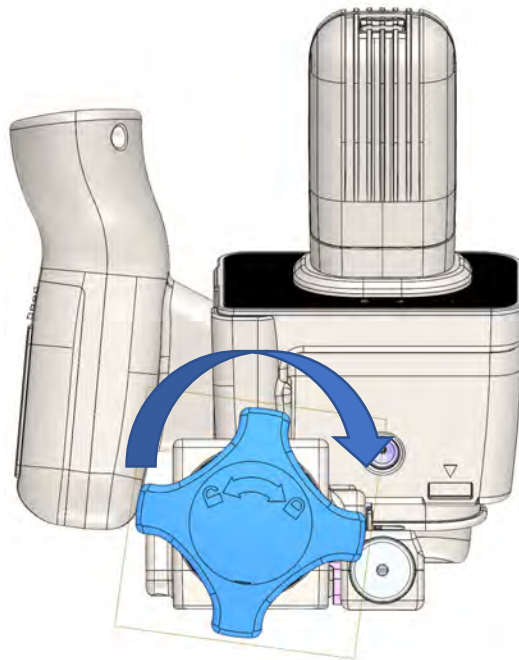

Figure 22. Locking the Aiming Arm Brake.
3. Lock the Aiming Arm by rotating the knob to the right until the knob clicks (Figure 22).